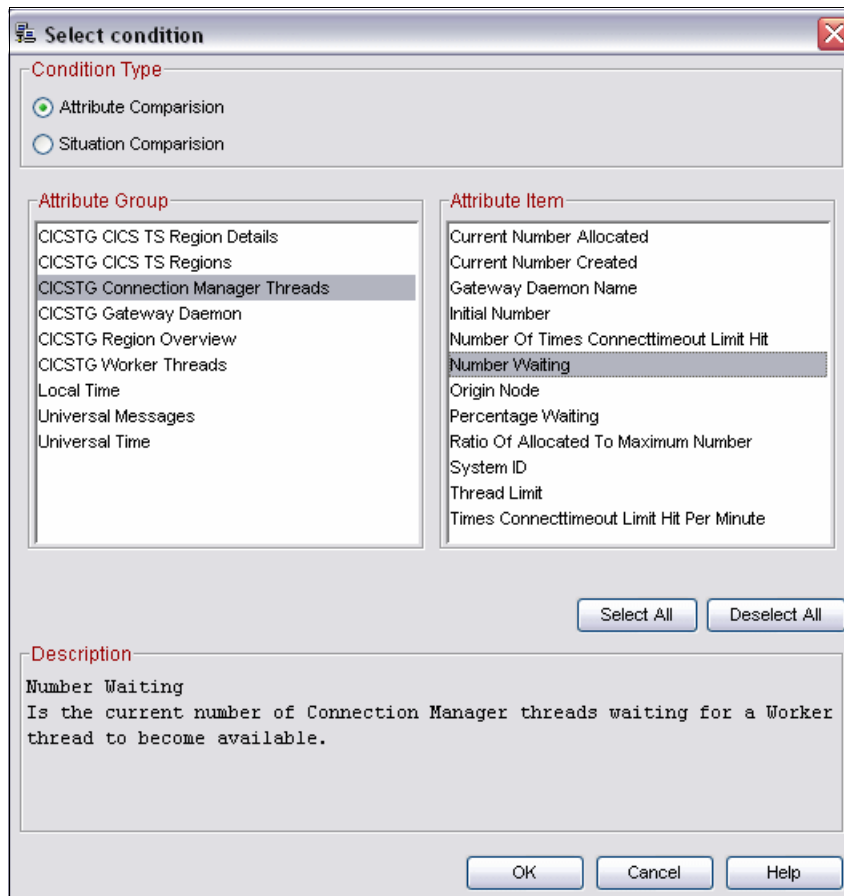

Figure 8-24 Select situation conditions
5. A further window appeared where “conditions” can be specified. We selected **CICSTG Connection Manager Threads** in the left hand box (attribute group). The selection changed in the right hand box (attribute item), where we then selected **Number Waiting** from the attribute item list and clicked **OK**, as shown in Figure 8-24 on page 327.